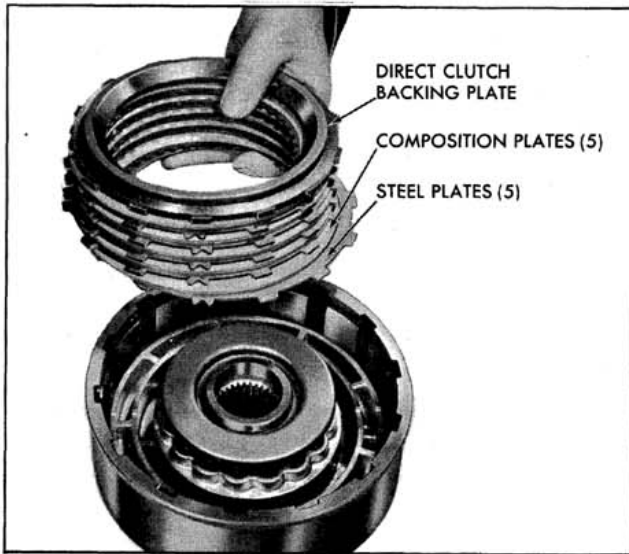

Fig. 6-167 Installing Direct Clutch Plates
8. Install five composition and five steel clutch plates, starting with steel and alternating steel and composition. The steel plates must have the notches in the drive lugs one above the other. (Fig. 6-167)